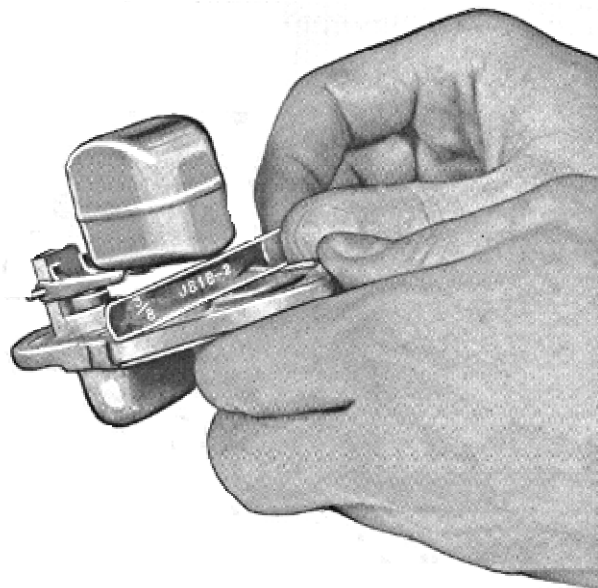

Figure 10
12. Install float valve needle seat assembly, using a new gasket which has been soaked in warm water, in bowl cover and insert needle into needle seat. Install float and lever assembly and pin. Then set float level using float level gauge to carburetor specifications of $\frac{3}{8}$ ", Fig. 10. Be sure the gauge rests on the cover gasket flange. Adjustment is obtained by bending the lip on float arm which contacts needle. Do not bend on float in adjusting it as damage will result. If intake needle or seat shows wear or damage, replace both. If holes in float or float pin are worn or out of round, or float is loaded with gas, replace float. Float pin should be replaced if it shows wear. Install a new pump cylinder bushing gasket in bowl cover. Install pump arm and counter shaft assembly on bowl cover. If hole in arm is worn or out of round, or countershaft is loose on arm, replace assembly. Be sure vent hole is opened in bowl cover. (Below countershaft.)
If carburetor loads up after considerable service, float level should be checked. Wear on lip of float lever will raise float level. Float level may be reset by bending lip of float lever down to raise float level or bending lip up to lower float level. Only a very slight bend is needed. (See Fig. 10.)